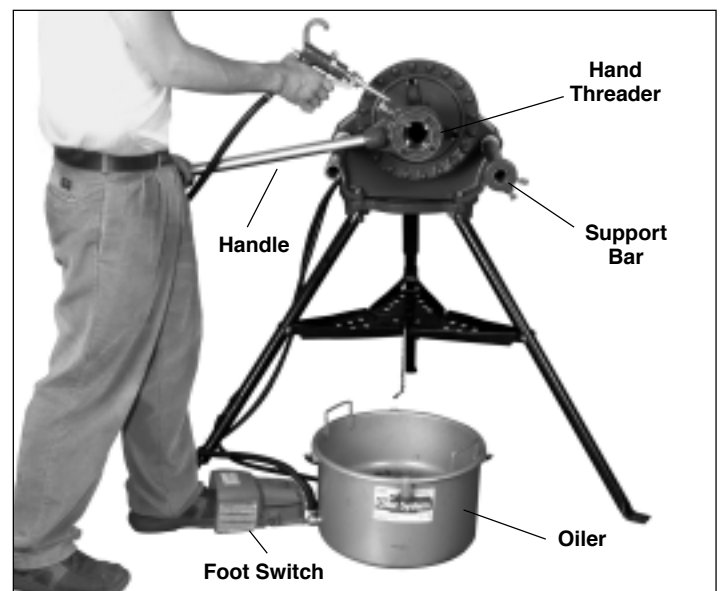

Figure 6
2. Place 06150 Oiler (Figure 6) under threader and apply REED Thread Cutting Oil on pipe end.
NOTE: THREADER IS AUTOMATIC ONCE DIES ARE ENGAGED. APPLY PLENTY OF OIL (FIGURE 6) UNTIL THREADS ARE COMPLETED.
OPERATING FOOT SWITCH. (FIGURE 6)**